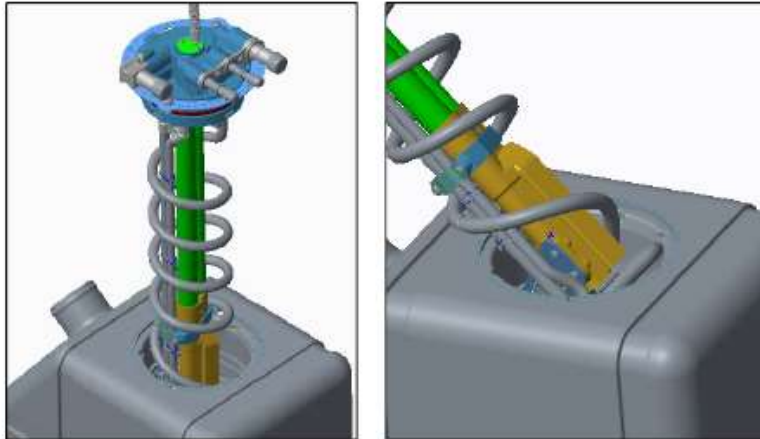

Figure 4: MFHU removal process.
10. Pull the MFHU out of the DEF tank until the bottom of the header is at the bottom of the tank bore. At this point, the MFHU will have to be tilted so that the heel of the sensor faces upwards. See Figure 4 below.